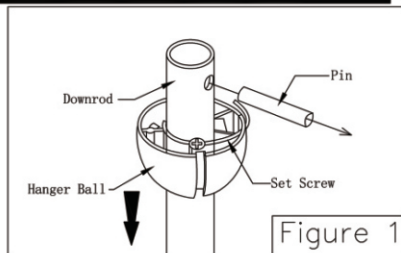

Figure 1
- Remove the hanger ball portion from the downrod/hanger ball assembly by loosening the set screw in the hanger ball until the ball falls freely down the downrod. Remove the pin from the downrod, then remove the hanger ball. Retain the pin and hanger ball for reinstallation in Step 6. (Figure 1)